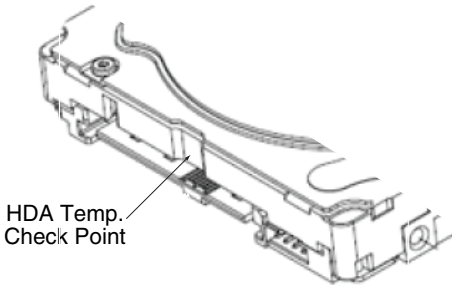

Figure 3. Location of the HDA temperature check point
- Air flow may be required to achieve consistent nominal case temperature values (see Section 3.4). To confirm that the required cooling is provided for the electronics and HDA, place the drive in its final mechanical configuration, and perform random write/read operations. After the temperatures stabilize, measure the case temperature of the drive. See Figure 3 for HDA temperature checkpoint.